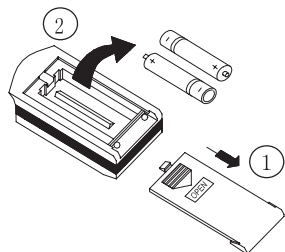

Fig.1
1. Slightly press the place with  along the arrowhead direction to push the back cover of remote controller. (As show in Fig 1.)